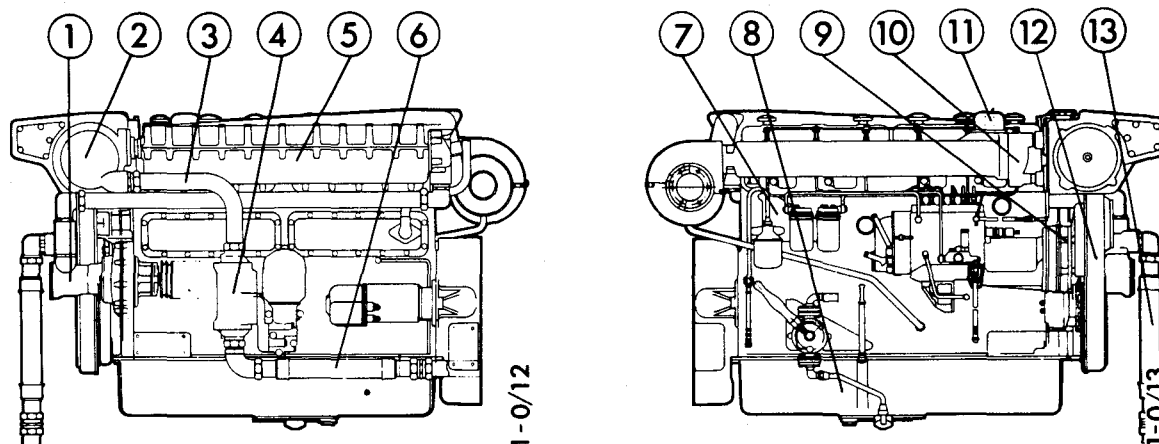

Fig. 1
Besides the modifications that have already been introduced on vehicle engines a good many changes have also been made on the marine engines, which in the first place affect the cooling system (both the sea-water and fresh-water circuit). The general appearance of the new DS11-engine will be noticed in fig. 1. Also shown in the figure will be seen the number of parts which are new or have been modified.
The intercooler, which was previously located behind the intake manifold is now incorporated in this (see pos. 5 fig. 1). This means that the length of the engine build-in is much less. In addition the new intercooler has better capacity than the older type.
In the sea-water circuit, the hoses used earlier on, have been replaced by pipes with connections of type clamp cone. For the sea-water circuits' feed and discharge a flexible steel hose (pos. 6 and fig. 1) has been introduced which is able to absorb the engine vibrations.
Monitors and transmitters for fresh-water temperature have been located beneath one cover in the front section of the exhaust collector pipe (pos. 11 fig. 1).
A new bracket for the fuel filter has been introduced (see pos. 7 fig. 1). On this bracket, the oil cleaner for the turbo-charger shall also be located. The oil cleaner has been moved in order to make it possible to fit twin starter motors.